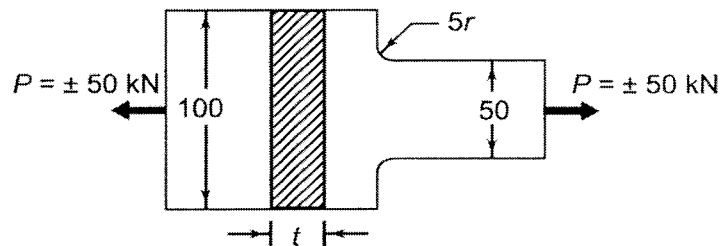

Fig. 2
5. A stepped plate as shown in Fig. 2 is made of carbon steel having ultimate tensile strength of 630 N/mm^2 is subjected to a fluctuating axial load of 50 kN . Considering size factor of 0.85 , surface factor of 0.76 and load factor of 0.89 and factor of safety of 2 , determine the thickness of the plate for a notch sensitivity factor of 0.8 .